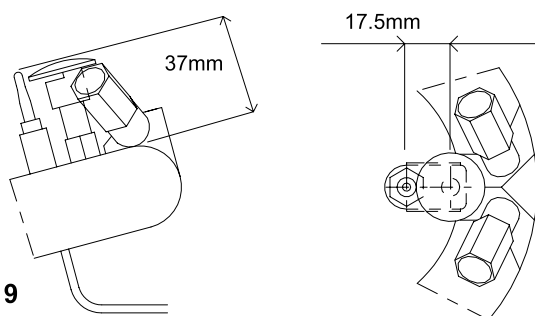

Figure 9
- d) Replace in reverse order. Position the thermocouple head as shown in Figure 9.